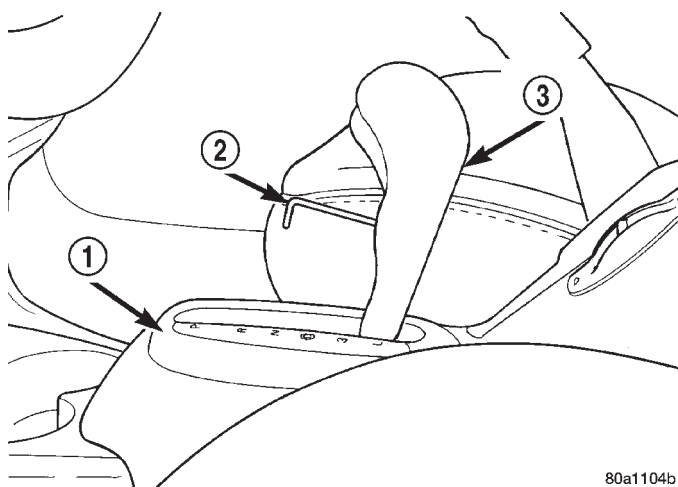

Fig. 132 Shift Knob Retaining Screw
(14) Install the shift knob on the shifter. Install and securely tighten the shift knob retaining screw (Fig. 132).
(1) Remove the shift knob from the shifter. **The gear shift knob is attached to the shifter using a set screw (Fig. 132). Access to the set screw is from the front of the shift knob and is removed using a 2 mm allen wrench.**